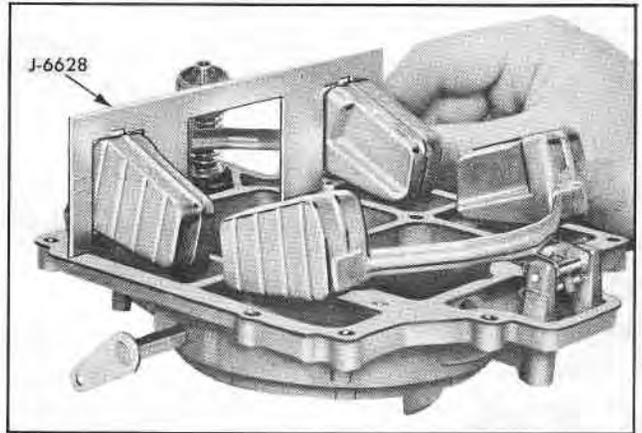
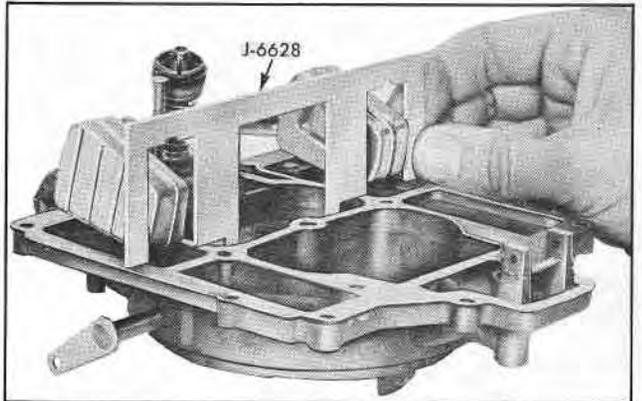

Fig. 6 Checking Float Level
Fig. 7 Checking Float Toe Clearance
- (1) With air horn gasket in place and air horn inverted, position float level gauge J-6628 over floats as shown in Fig. 6 so that gauge is located against the curvature in base of carburetor air horn.
- (2) Bend float arms vertically at center so floats just contact gauge. The vertical height is $1\text{-}3/8" + 1/32"$.
- (3) If necessary bend float arms horizontally until each float pontoon is centered between gauge legs.
- (4) Repeat same adjustment on opposite float assembly.
- (5) With air horn inverted, lower edge of toe of float should be flush to $+1/16"$ from gasket surface. With gauge in position shown in Fig. 7, the two scribe marks on the gauge show required height of float toe necessary to ensure this clearance. If adjustment is necessary, hold float